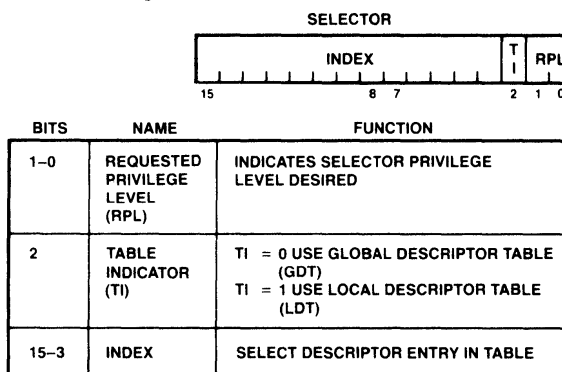

FIGURE 14. SELECTOR FIELDS
A protected mode selector has three fields: descriptor entry index, local or global descriptor table indicator (TI), and selector privilege (RPL) as shown in Figure 14. These fields select one of two memory based tables of descriptors, select the appropriate table entry and allow high-speed testing of the selector's privilege attribute (refer to privilege discussion below).